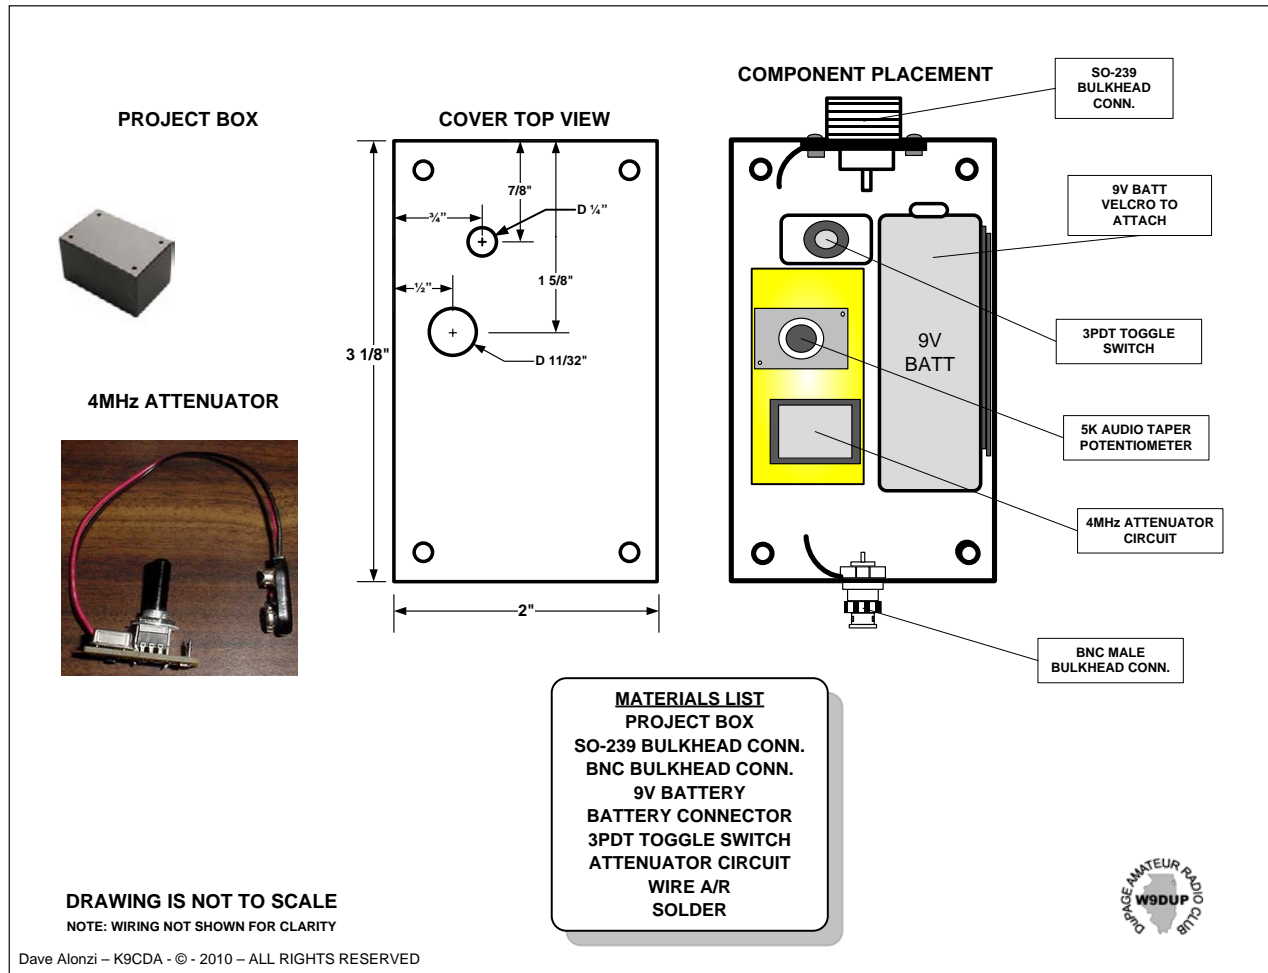

Figure 1 – ATTENUATOR CONFIGURATION
3. Orient the box so the SO-239 connector is facing away from you. Keeping the Hook & Loop material together, adhere the **LOOP** side of the Velcro pad to the battery; then attach the it on the right side of the box. Refer to Figure 1 for the parts orientation.
4. Mount the toggle switch onto the aluminum top plate in the smaller hole. Orient the switch so the two blank contacts face toward the top of the plate. Refer to Figure 1 for proper orientation. Don't over-tighten the switch when you mount it.